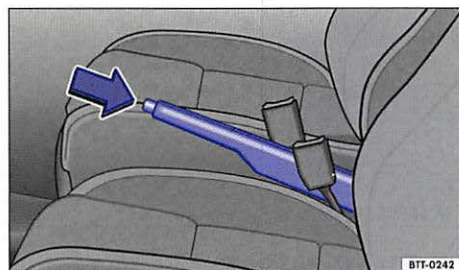

Fig. 113 Between the front seats: Parking brake.
- Pull the lever up slightly and press the release button ⇒ fig. 113 (arrow).